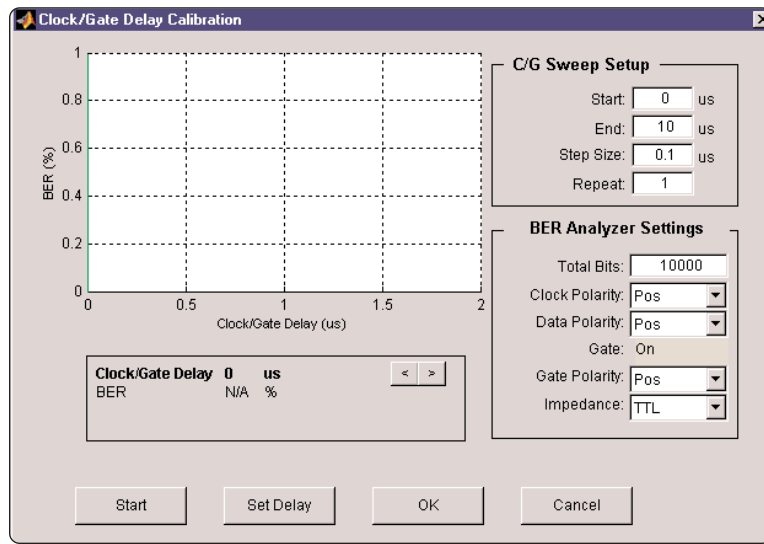

Figure 34. Clock/Gate Delay Calibration utility setup.
- Configure the automated Clock/Gate Delay Calibration utility, Figure 34. In this example, the Clock/Gate Sweep End field is set to 10 us. Default values are used for the remaining configuration fields.